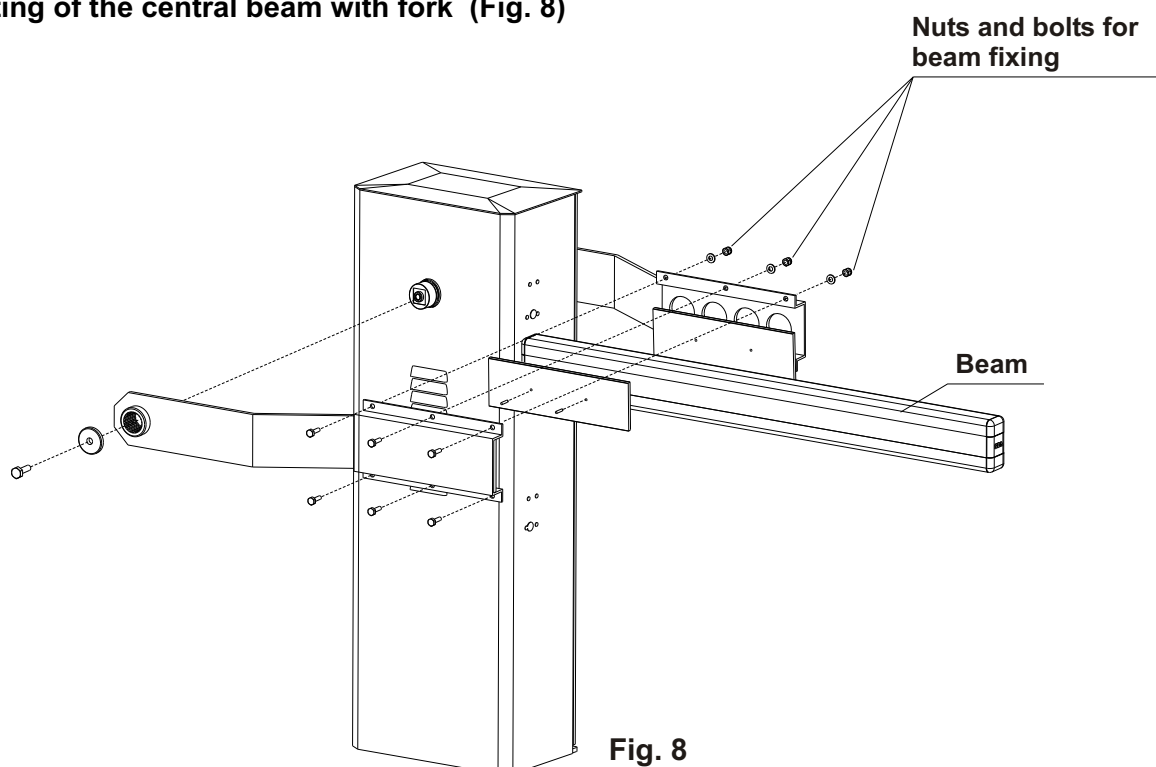

Fig. 8
5) Mounting of the central beam with fork (Fig. 8)